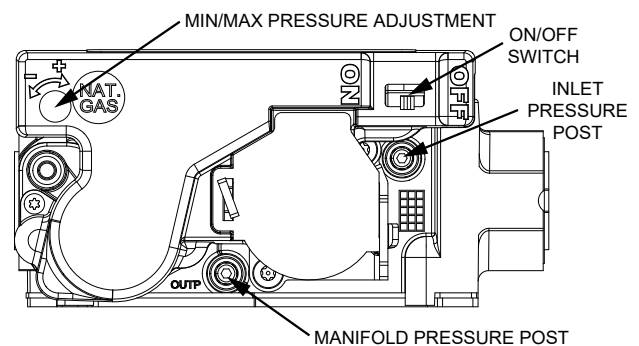

FIGURE 31
- 5 - Move gas valve switch to **OFF**. See FIGURE 30 and FIGURE 31.
- 6 - Wait five (5) minutes to clear out any gas. If you then smell gas, **STOP!** Immediately call your gas supplier from a neighbor's phone. Follow the gas supplier's instructions. If you do not smell gas, go to the next step.
- 7 - Move gas valve switch to **ON**. See FIGURE 30 and FIGURE 31.
For White Rodgers 36J27 valve (FIGURE 31), locate the 5/16" inlet pressure post on top of the valve. Using a 3/32" hex wrench, rotate pressure tap screw one rotation counter-clockwise. Connect a piece of 5/16" I.D. tubing over the post and route to measuring device.
For White Rodgers 36J27 valve (FIGURE 31), remove tubing from the post. Then using 3/32" hex wrench, rotate the inlet pressure tap screw clockwise to seal the pressure port.
For White Rodgers 36J27 valve (FIGURE 31) manifold pressure, locate the 5/16" manifold pressure post on top of the valve. Using a 3/32" hex wrench, rotate the outlet pressure tap screw one rotation counter-clockwise. Place 5/16" I.D. tubing over post and route to measuring device.